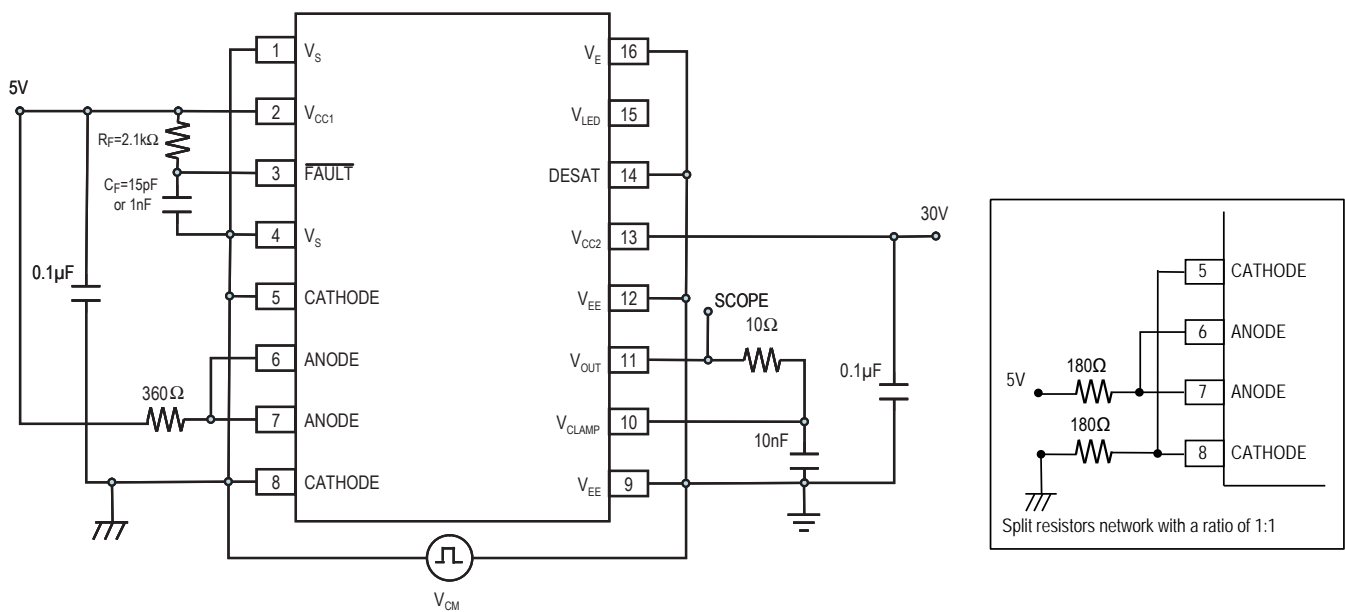

Figure 34. CMR Test Circuit LED1 on
- Split resistors network with a ratio of 1:1 is needed at input LED1. See Figure 34.